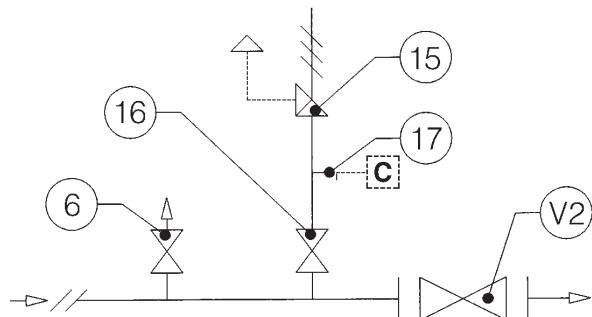

Fig. 8
3.1.2 INSTALLAZIONE CON VALVOLA DI INTERCETTAZIONE (Fig. 8)
3.1.2 INSTALLATION WITH ON/OFF VALVE (Fig. 8)
3.1.2 INSTALLATION MIT ABSPEORGAN (Fig. 8)
3.1.2 INSTALLATION AVEC VANNE DE SECTIONNEMENT (Fig. 8)
3.1.2 INSTALACIÓN CON LLAVE DE PASO (Fig. 8)
3.1.2 INSTALAÇÃO COM VÁLVULA DE CORTE (Fig. 8)